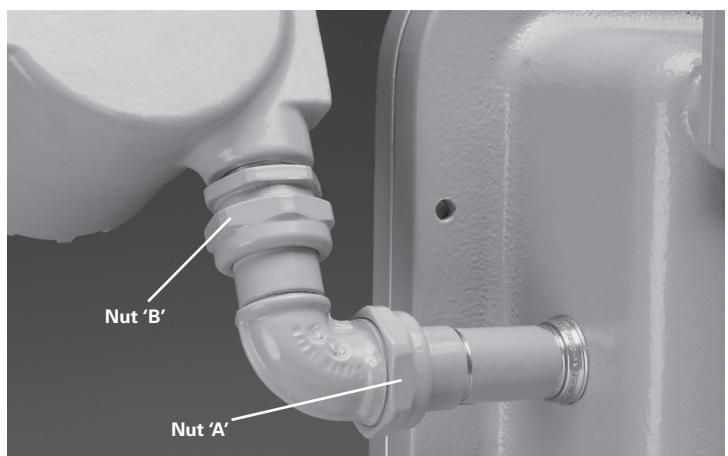

Figure 2. EVLAM2 Luminaire
- Adjust EVLAM2 emergency light(s) for the desired direction of illumination and lock into position using 1-5/8" open-ended wrench and torquing to 58 lb.-ft. See Figure 2.